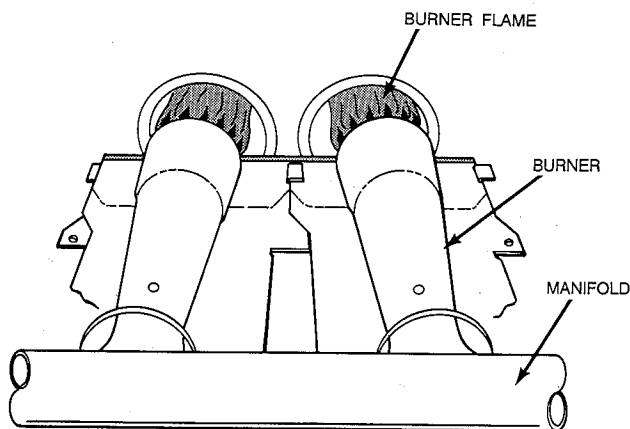

Fig. 15 — Burner Flame
- (3.) When correct input is obtained, replace regulator adjustment seal cap. Main burner flame should be clear blue, almost transparent. (See Fig. 15.)